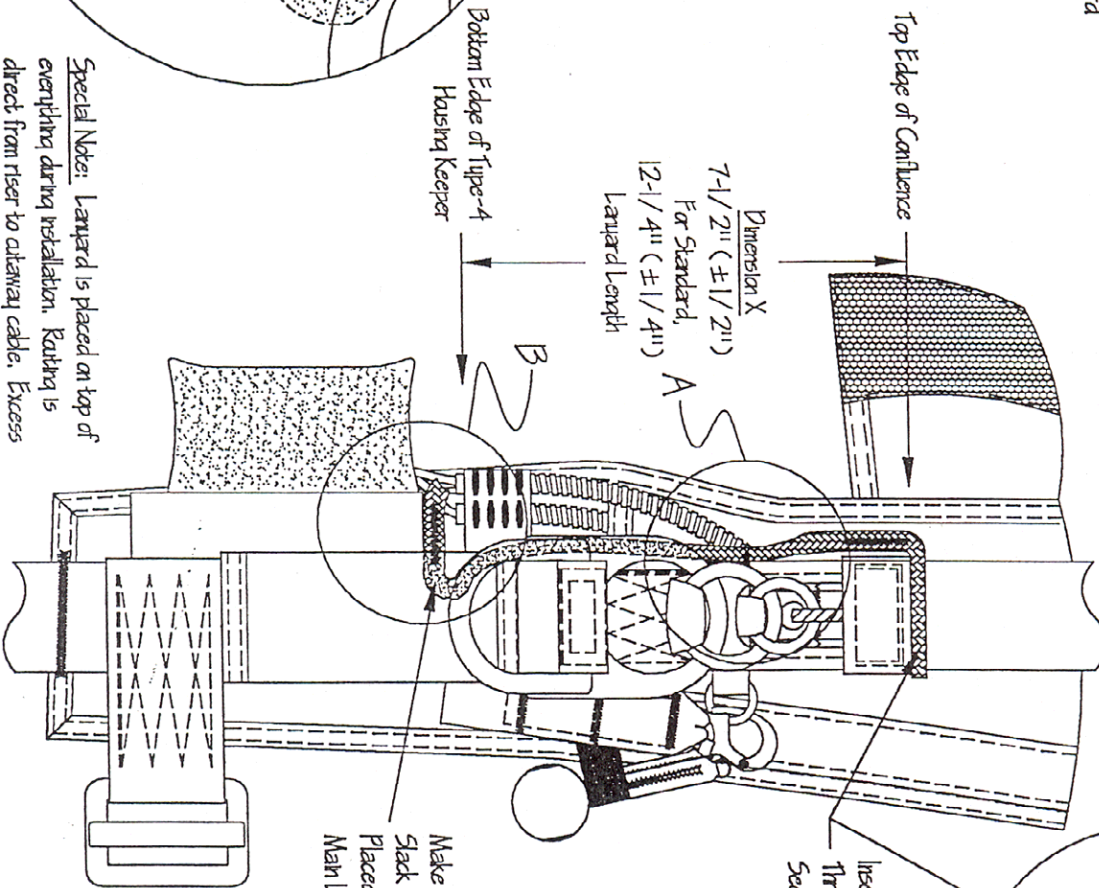

Figure 4
1) Reference Figure 4. Measure Dimension X. It should be 7.5 inches \pm .12 inch.
3) Slide the large loop of the lanyard over the front leg of the riser, and only the front riser. Slide the lanyard all the way down to the confluence wrap above the rings. (Figure 4)
6) Insert only the long cutaway cable leading to the left riser through the small loop of the lanyard. DO NOT insert both cables. (Figure 4)
8) Make sure that slack in the lanyard is placed behind main lift web. (Figure 4)